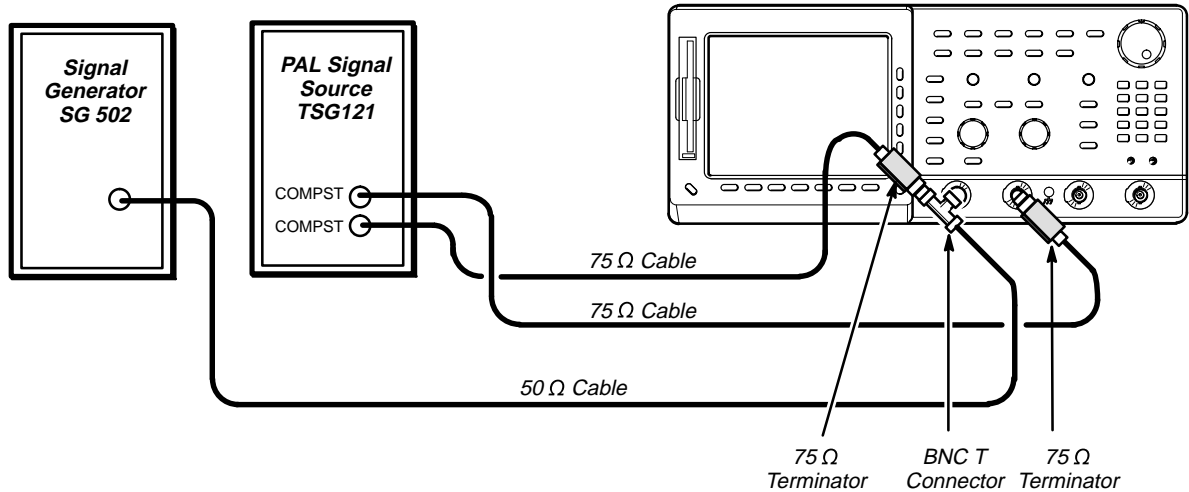

Figure 1-34: Subsequent 60 Hz Rejection Test Hookup
- Reconnect the output of the signal generator (SG 502). Connect the PAL signal source's composite signal connector (labelled **COMPST**) on the TSG 121) to a 75 Ω cable and a 75 Ω terminator. Connect both signals to the CH1 input through a BNC T (See Figure 1-34).
- Connect another the PAL signal source's composite signal connector (labelled **COMPST** on the TSG 121) through a 75 Ω cable and a 75 Ω terminator to the CH2 input (See Figure 1-34).